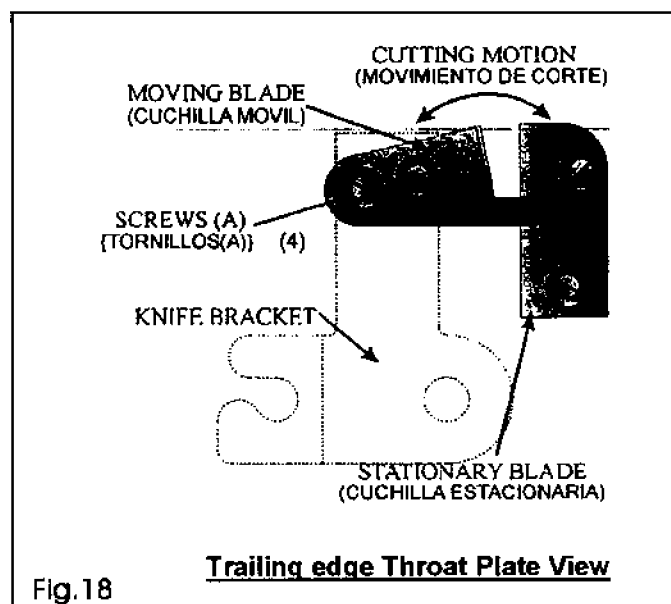

Fig.18
2. Remove the two screws (A) holding the moving blade to the knife bracket (Fig.18) and remove the blade.
3. Remove the two screws (A) holding the stationary blade to the machines housing and remove the blade.
6. Make certain that the screws (A) are tight.